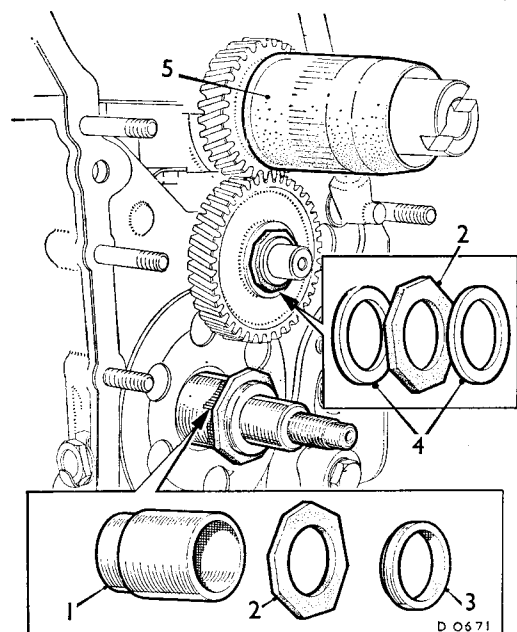

Fig. Aa.17
(32) Fit Service tool adaptor 18G 1089 A over the input shaft. Use Service tool 18G 1089/1 to cut a dental wax washer, and fit the wax washer with Service tool 18G 1089/1 over the input shaft (see Fig. Aa.17).
(33) Carry out items (25) and (26).
(34) Fit a new converter housing joint washer and ensure that NO shims are sticking to the input gear bearing. Lubricate the oil seal lip, refit the housing and tighten to the torque figure given in